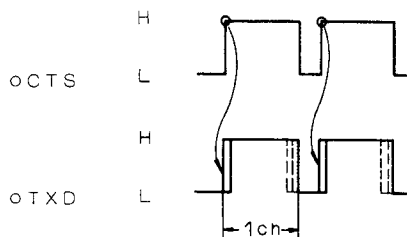

Fig. 4-2 TXD and CTS
The flowchart of the message recognition routine in the dotted box (1) on the host CPU side is shown in Fig. 4-2